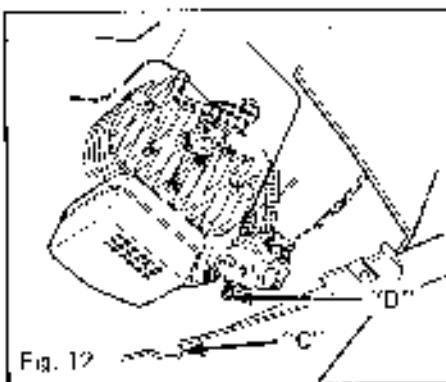

Fig. 12
**2 CYCLE ENGINE** - The engine has been pre-set to run at 4300 RPM. Through opening (C), Figure 12, in hand side of machine, turn the mixture adjusting screw (D) (using a screwdriver) to regulate flow of fuel to the engine.